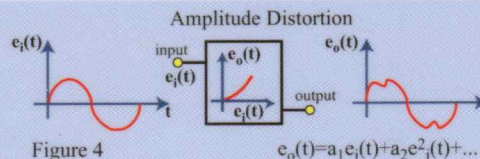

Figure 4
**• Amplitude distortion:** Also known as harmonic or nonlinear distortion, this is caused by the nonlinear transfer function characteristics of the components/ devices in the circuit (Fig.4). That is, an input signal  $e_i(t)$  will be delivered at the output of the circuit as: